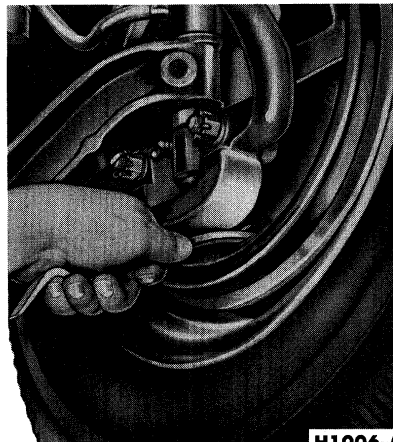

FIG. 3—Single Anchor Brake Shoe Adjustment
2. Remove the cover from the adjusting hole at the bottom of the brake carrier plate, and turn the adjusting screw inside the hole to expand the brake shoes until they drag against the brake drum (Fig. 3).